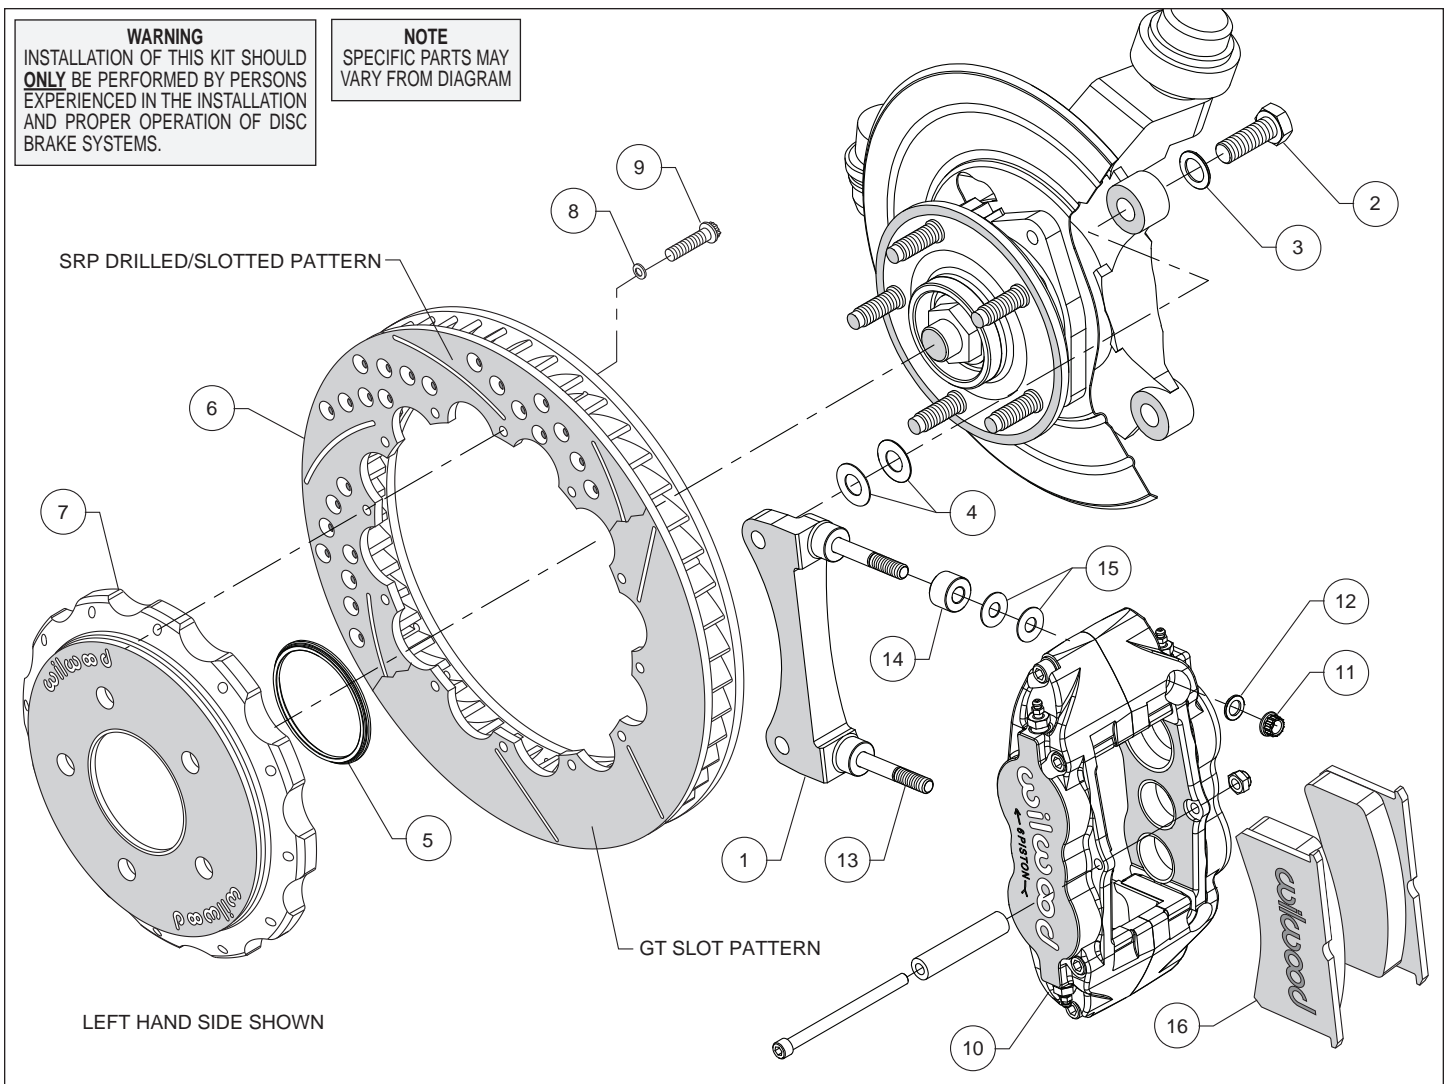
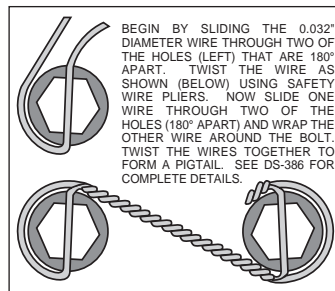

Figure 1. Typical Installation Configuration
Figure 3. Safety Wire Diagram
Assembly Instructions (numbers in parenthesis refer to the parts list and Figure 1 on the preceding pages):
- The caliper mount bracket (1) should initially be installed with clean, dry threads on the mounting bolts. Orient the bracket as shown in Figure 1 and Photo 1 and install using mount bolts (2) and washers (3). Initially place two .029" thick shims (4) on each bolt between the bracket and upright, Figure 1. Temporarily tighten the mounting bolts. **NOTE:** *The bracket must fit squarely against the mount bosses on the upright.* Inspect for interference from casting irregularities, machining ridges, burrs, etc. Later, after the caliper alignment has been checked, the mount bolts will be secured using red *Loctite*® 271.
- Orient the rotor (6) and the hat (7) as shown in Figure 1 and Photo 2. Attach rotor to hat using bolts (9) and washers (8). Using an alternating sequence, apply red *Loctite*® 271 to the threads, and torque to 155 **in-lbs**. For an added measure of security, the bolts may be safety wired using standard 0.032 inch diameter stainless steel safety wire as shown in Figure 3. Please refer to Wilwood's data sheet DS-386 (available at www.wilwood.com/Pdf/DataSheets/ds386.pdf) for complete safety wire installation instructions.
- NOTE:** *This kit contains distinct right and left hand calipers that must be mounted in a specific direction, as described below.* Lubricate the caliper mounting studs (13) with lightweight oil. Initially place two .035" thick shims (15) and one spacer (14) on each stud as shown in Figure 1 and Photo 7. Mount the caliper (10) onto the bracket (1) using lock nuts (11) and washers (12), Figure 1. Ensure that the caliper is mounted so the largest pistons are at the rotor exit end of the caliper, in relation to the direction of rotor rotation. Temporarily tighten the lock nuts and view the rotor through the top opening of the caliper. The rotor should be centered in the caliper, Photo 8. If not, adjust by adding or subtracting shims (4) between the bracket and the upright. Always use the same amount of shims on each of the two mounting bolts. Once the caliper alignment is correct, remove the bracket mounting bolts one at a time, apply red *Loctite*® 271 to the threads, and torque to 75 ft-lb.